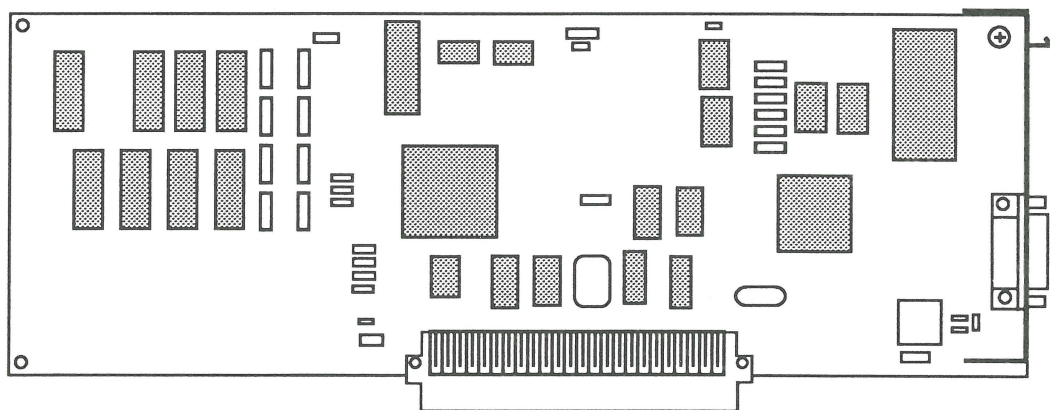

FIGURE 8
IPL.13	Macintosh Display Card 8/24 (Figure 8)
□ MACINTOSH DISPLAY CARD 8/24 (Figure 8)